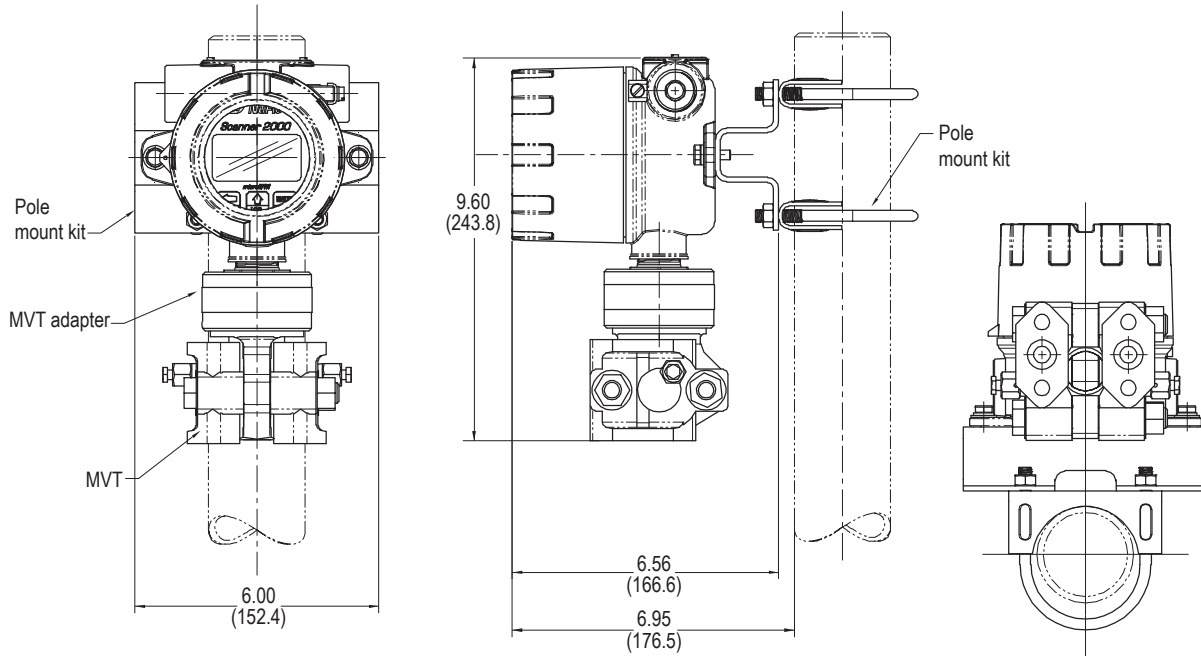

Figure 2.4—Scanner 2000 with MVT, remote-mounted on a 2-in. pole using a NuFlo hardware kit (Part No. 9A-30028004)
- Pole-mount. The instrument can be mounted on a 2-in. pole using a NuFlo hardware kit, or bulkhead-mounted to a flat, vertical surface (Figure 2.4, page 32). Pole mounting may be preferred where limited space or pipe vibration prohibits direct-mount installation. A horizontal pipe mount is recommended for liquid and steam installations using a side-port MVT and block manifold. Tubing is used to connect the integral MVT to the orifice meter or cone meter. If a Scanner 2000 will be used for steam measurement, a condensate pot must also be installed to protect the Scanner 2000 from extreme temperatures. See Measuring Steam via a Differential Pressure Meter, page 40, for details.
2. Connect the mounting bracket to the Scanner 2000 using the two bolts provided (Figure 2.4, page 32).
Important The vertical pipe mount configuration shown in Figure 2.4 is not recommended for side-port MVTs when mated with a block manifold for liquid or steam measurement. A horizontal pipe mount should be considered for these installations.